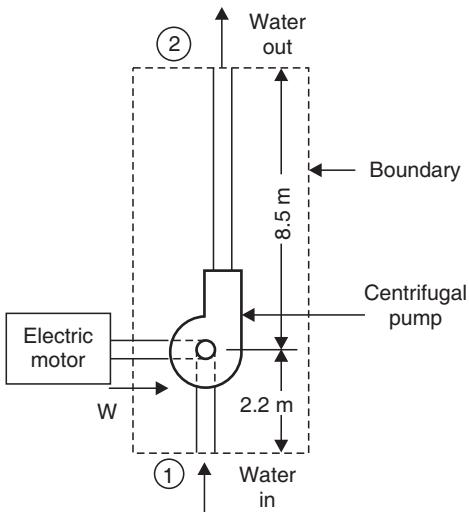

Fig. 2.51
**Solution.** Refer to Fig. 2.51.